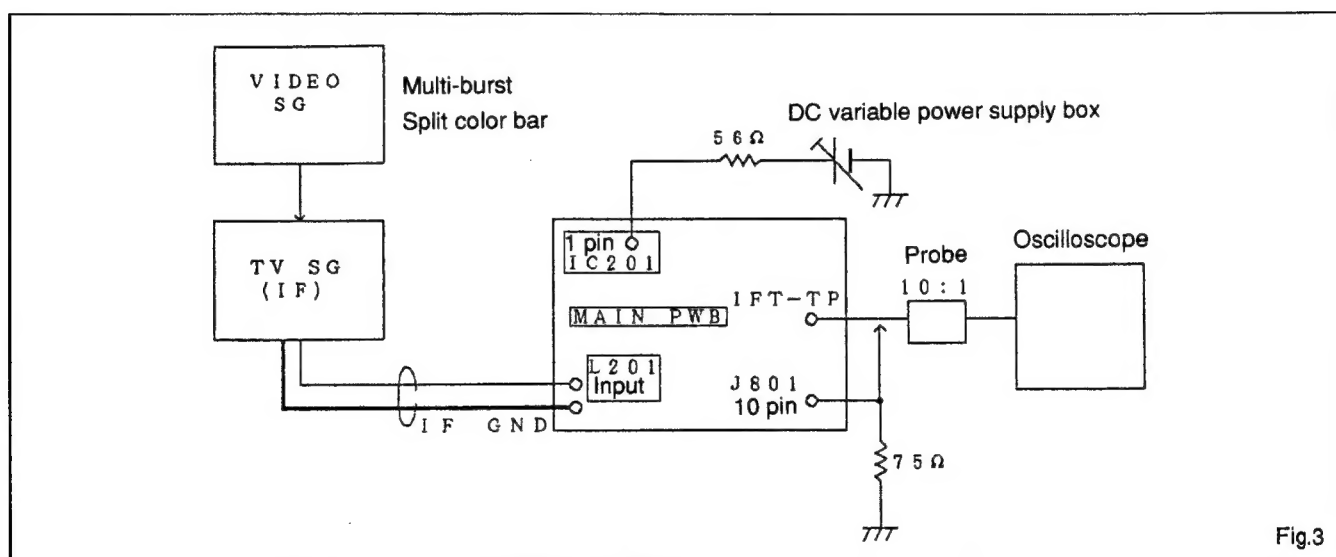

Fig.3
(1) Prepare and connect the measuring instrument as shown in Fig. 3.
(2) Disconnect the tuner pack output from the IF input with the test pattern.
(3) TV SG setting